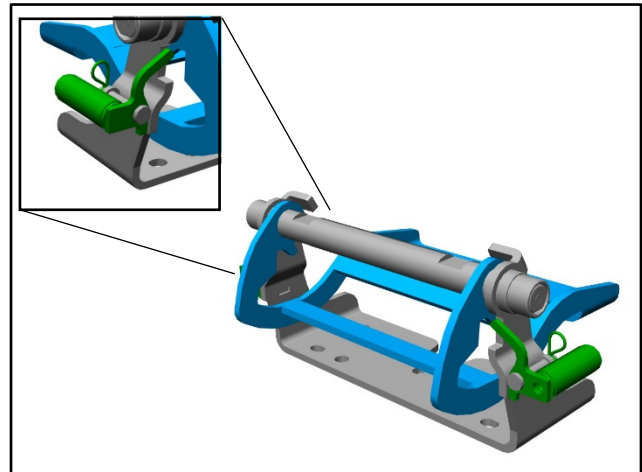
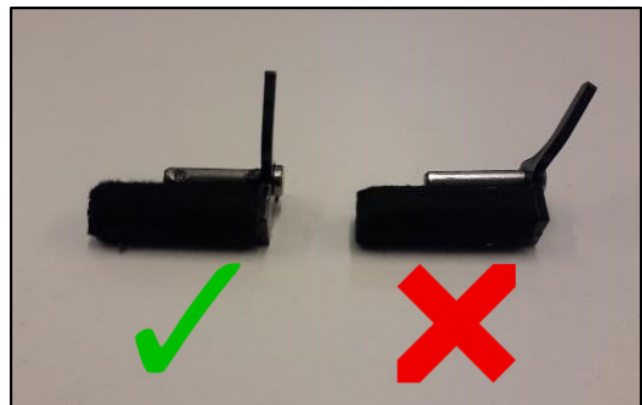

Figure 22
Figure 23
15. On the new hinge mechanism, examine the left side and right side hinge lock mechanisms. Make sure that they are straight as illustrated (refer to Figure 22 and Figure 23).